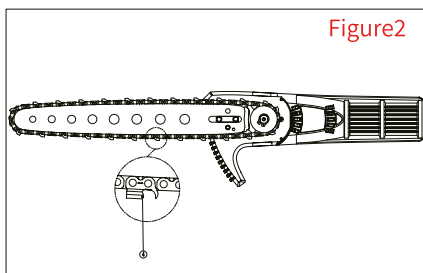

Figure2
- (3) In Figure 2, confirm the chain installation direction and assemble it according to direction
- (4) in the figure;
- (3) Figure 2, Remove the sprocket cover (2);